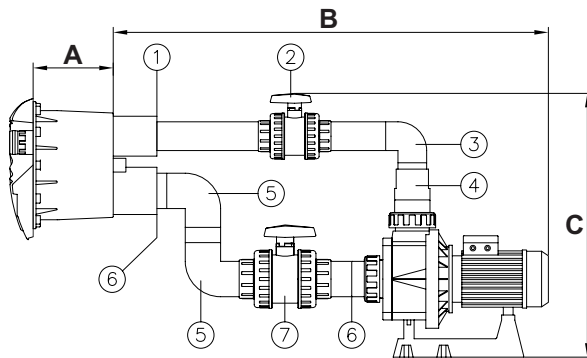

Fig. 6
- Glue the 75x63 mm. reducing bush (no.1, fig. 6) to the discharge mouth of the niche (see fig. 6).
- Glue a  $\varnothing 63$ mm. pipe (\*) in the reducing bush (no.1, fig. 6).
- Glue the  $\varnothing 63$ mm. valve (no.2, fig. 6) to the  $\varnothing 63$ mm. pipe (\*).
- Glue a  $\varnothing 63$ mm. pipe (\*) to the  $\varnothing 63$ mm. pipe (no.2, fig. 6).
- Glue the  $\varnothing 63$ mm. elbow (no.3, fig. 6) to the  $\varnothing 63$ mm. pipe (\*).
- Glue a  $\varnothing 63$ mm. pipe (\*) to the elbow (no.3, fig.6).
- Glue a 90/75/63 mm. conical reducer (no.4, fig. 6) to the  $\varnothing 63$ mm. pipe (\*) and the  $\varnothing 90$ mm. connector on the pump.
- Glue the 90x75 mm. reducing bush (no.6, fig. 6) in the suction mouth of the niche (see fig. 6).
- Using a  $\varnothing 75$ mm. pipe (\*), glue a  $\varnothing 75$ mm. elbow (no.5, fig. 6) on to the reducing bush (no.6, fig. 6).
- Using a  $\varnothing 75$ mm. pipe (\*) join the other  $\varnothing 75$ mm. elbow (no.5, fig. 6) to the elbow already glued (see fig. 6).
- Glue the  $\varnothing 75$ mm. valve (no.7, fig. 6) to the elbow (no.5, fig. 6) using a  $\varnothing 75$ mm. pipe (\*) to join them.
- Glue a  $\varnothing 75$ mm. pipe (\*) to the valve (no.7, fig. 6).
- Glue a 90x75 mm. reducing bush (no.6, fig. 6) to the  $\varnothing 75$ mm. pipe (\*) and the  $\varnothing 90$ mm. connector on the pump.